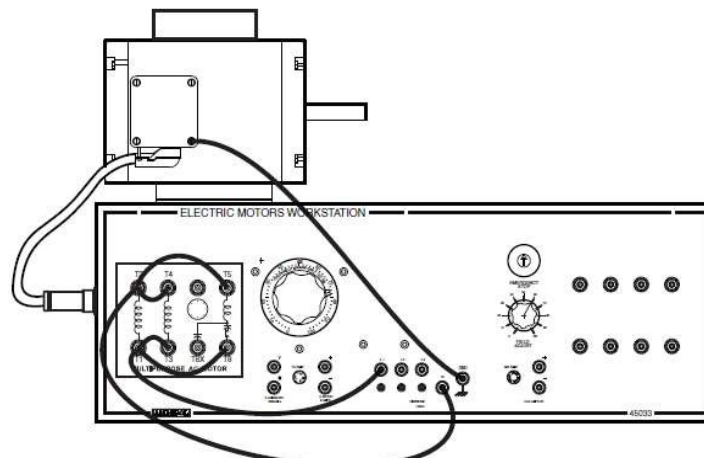

Figure 6: The wiring connections for a capacitor-start motor
1. Mount a multi-purpose motor (See figure 6) to the left side of the training unit. This unit is called a multi-purpose motor due to a custom build that has two capacitors inside the motor. The unit can be used as a capacitor-start, or capacitor run type of motor. Ask the instructor for help if the machine is too heavy to put into place. If there is a coupling on the motor shaft or not, secure a coupling guard over the unit.
6. Verify the connections on the Machines Training Unit by reviewing the illustration in Figure 6, which shows the connections between the different banana jacks on the Unit.